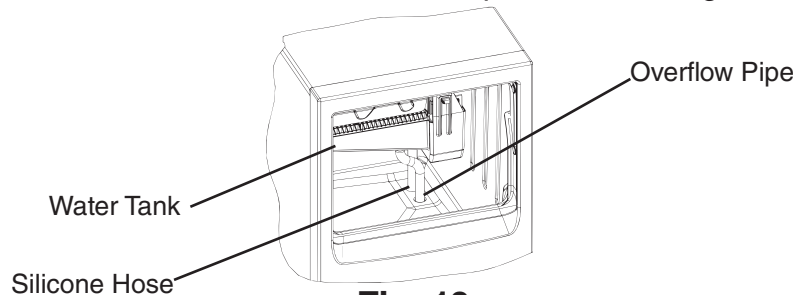

Fig. 10
- 2) Disconnect the silicone hose to drain the water, then after all the water has drained reconnect the silicone hose back in its correct position. See Fig. 10.